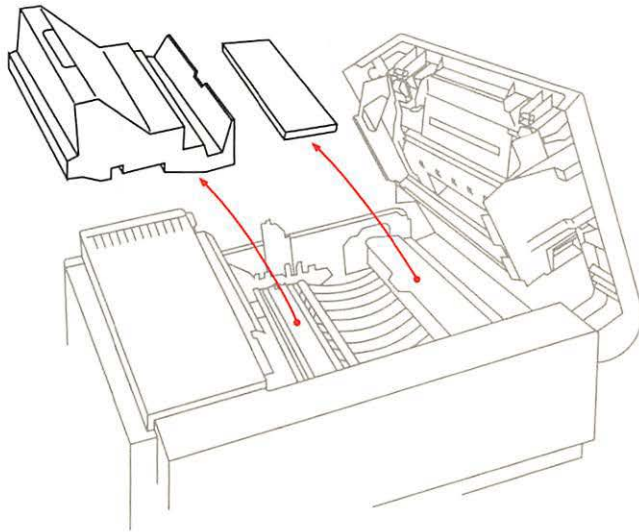

Figure 1-5
3. Peel off the filament tape and remove the packing material from inside the printer. (See Figure 1-5.)